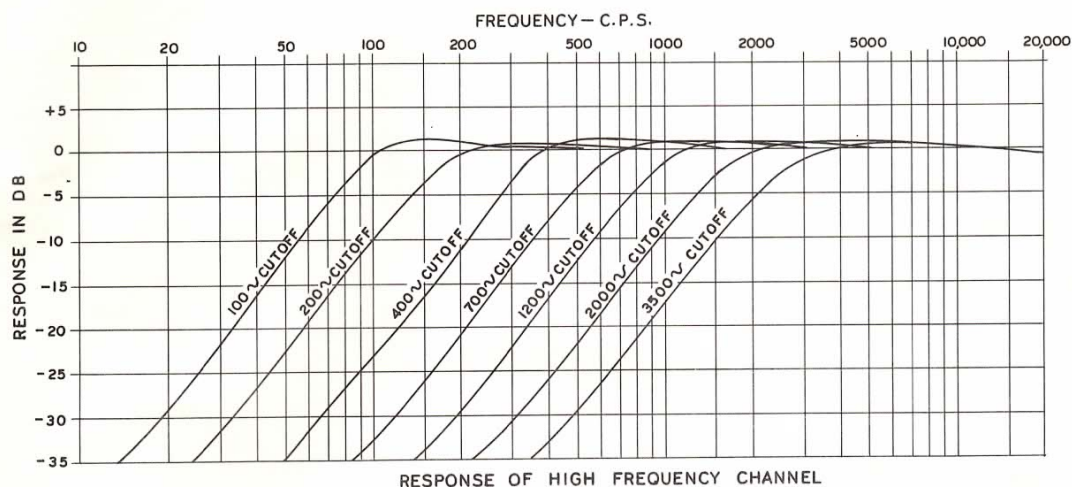
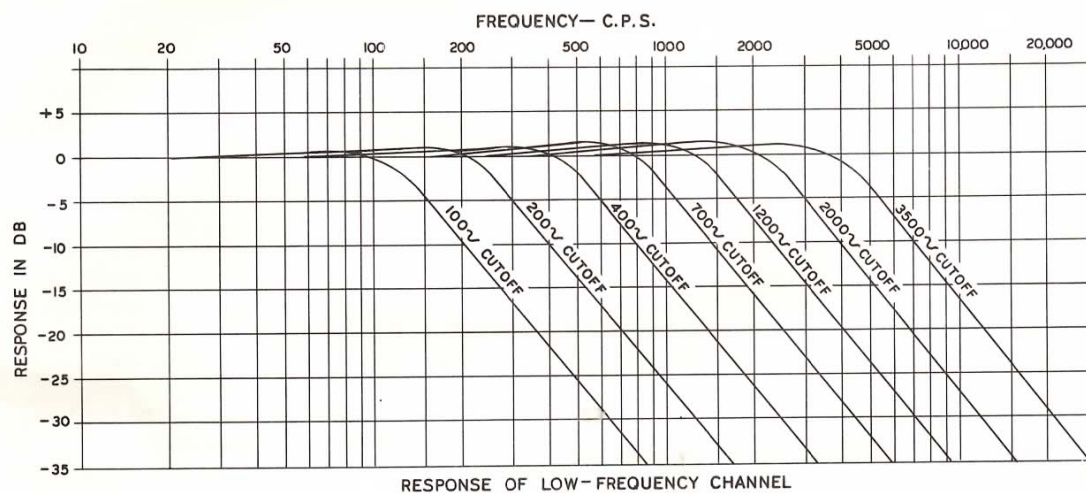

Figure 1
Figure 2
The high-frequency channel is actually a high-pass filter; it passes only those frequencies above the cutoff frequency, as shown in the curves of Figure 1. It will be noted that the cutoff frequency may be adjusted to 100, 200, 400, 700, 1200, 2000 or 3500 cycles by means of a rotary switch. Similarly, the low-frequency channel is a low-pass filter which will pass only frequencies below the cutoff frequency, as shown in Figure 2. The cutoff frequency of this channel is adjustable over the same range by means of another switch. The input signal is applied through the high and low-frequency LEVEL controls, through suitable isolating resistors to the input of both channels. The 12AX7 dual triode in each channel is utilized so that one section functions as a gain stage and the other as an output cathode follower. Each channel employs two RC networks in order to achieve a cutoff slope of 12 db per octave since each network contributes 6 db per octave. In each channel the 12AX7 gain stage serves to separate the two RC networks. Approximately 14 db negative feedback is applied around each channel from the cathode-follower output back to the grid of the gain stage. The function of this negative feedback is three-fold: (1) It modifies the shape of the response curves in the region near the cutoff frequency, so that a much sharper "knee" is imparted to the curve than if feedback were not used. This makes it possible to maintain essentially flat response up to and including the cutoff frequency, with as much as 12 db attenuation at twice and one-half this frequency for the low and high-frequency channel, respectively. (2) Any harmonic distortion developed is reduced by feedback, at frequencies within the passband of either channel. (3) The amount of feedback used reduces the overall gain to unity since gain is not required in the unit.